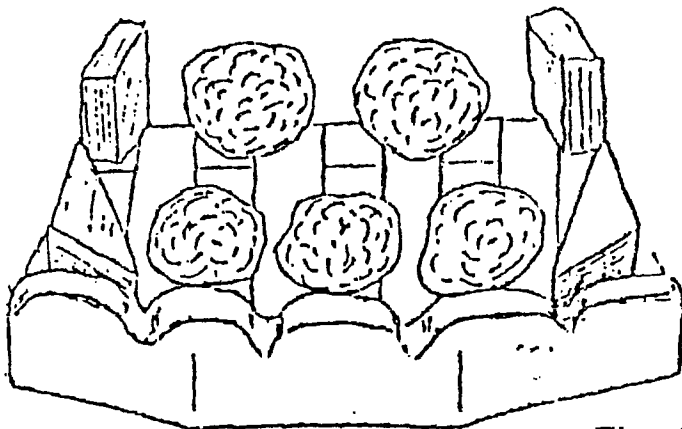

Fig. 3
2. Place 2 medium/round between the centre gaps of the coal support shelf with 1 medium/small coal placed at each side, Fig. 3.